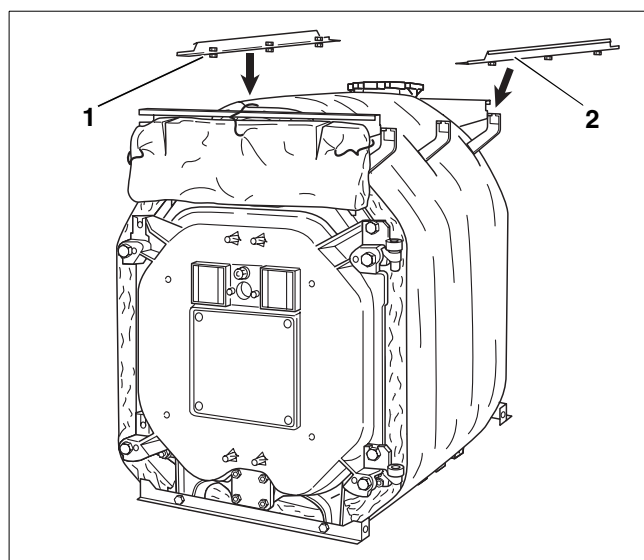

Fig. 44 Final fitting of longitudinal rails
- As already described, slide the prefitted bolts in the longitudinal rails (Fig. 44, **ref. 1 and 2**) into the slots in the brackets and use them to bolt the rails tightly to the brackets.